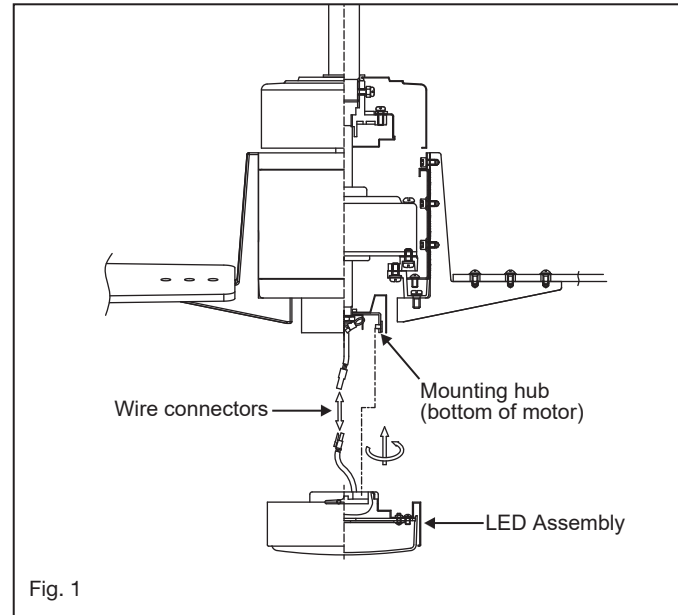

Fig. 1
- 1 Remove ball from downrod by loosening set screw in the side of the ball. Slide ball down and remove cross pin; remove ball. (Fig. 1)
1. Insert the receiver into the ceiling mounting bracket with the flat side of the receiver facing the ceiling. (Fig. 1) For best performance, make sure the Black Antenna and WiFi Antenna, on the end of the receiver, remains extended and not tangled with any of the electrical wires.
- 1 While holding the LED assembly under your fan, make the polarizeplug connections: (Fig. 1)
- 2 Position the notches on the outside edge of the LED assembly so they match the tabs on the inner of the rim on the mounting hub. Carefully lift the LED assembly inside the mounting hub and secure it to the fan by turning the LED assembly clockwise until snug. (Fig. 1)
- 1 Select a desired location. Use the wall plate to mark the location of the mounting holes. Plastic wall anchors or mounting screws are needed for this application. (Fig. 1)
Remove the panel from the transmitter and then install one 2032 battery (included). You need to use a coin to open or close the battery cover. To prevent damage to transmitter, remove the battery if not use for long periods of time (Fig. 1)